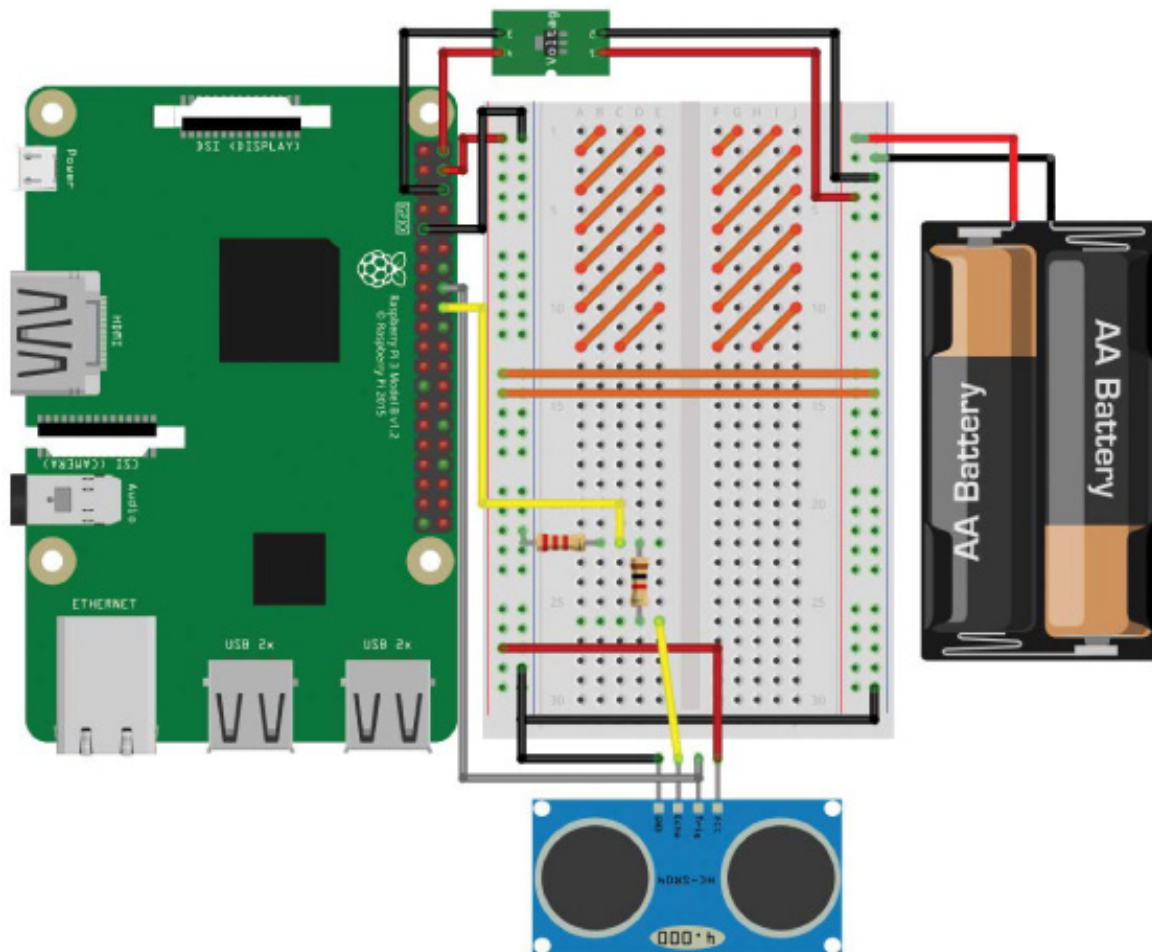

FIGURE 5-7 The completed breadboard diagram with the HC-SR04 and voltage divider in place
6. Finally, place one leg of your 2 k Ω /2.2 k Ω resistor in the row with the 1 k Ω resistor and jumper wire to your Pi's BCM 24 pin, and place the other leg of this resistor in a ground rail. The complete circuit on your breadboard should look something like Figure 5-7.